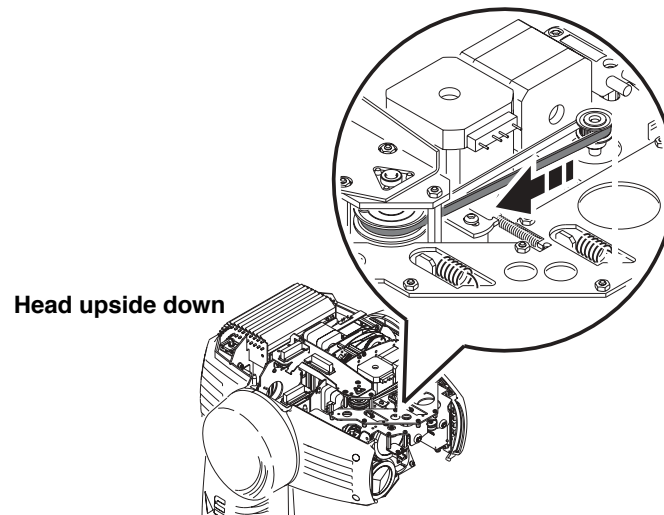

**Figure 17: Moving the focus lens forward**
5. Flip the head upside-down. Move the focus lens to its forward limit by pulling on its belt as shown in Figure 17.